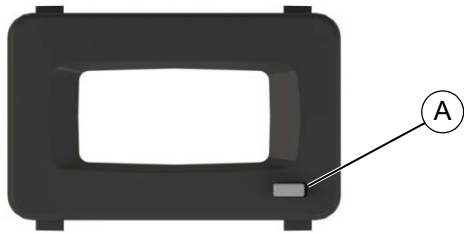

Figure 4-1. Operating Maintenance Meter
See Figure 4-1. The maintenance meter monitors accumulated running time, time until engine oil needs to be changed, and time until lubrication is recommended. Pressing function button (A) cycles through the meter functions.